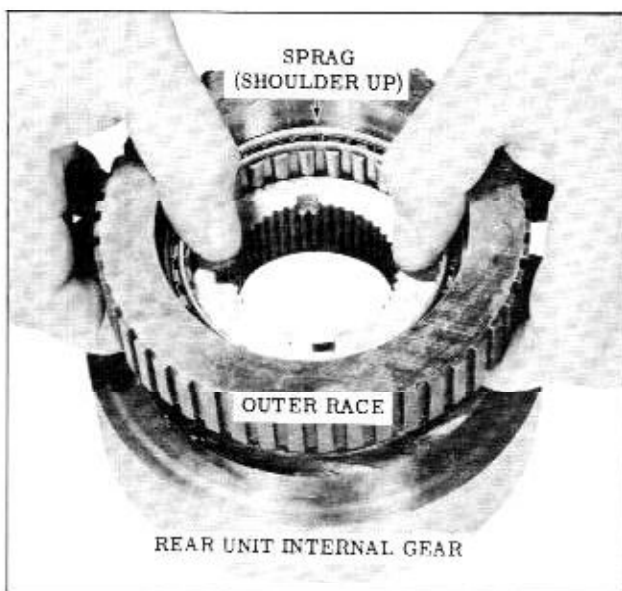

Fig. 3-89 Installing Sprag
3. With shoulder side of sprag up, start sprag and outer race over internal gear hub. (Fig. 3-89)